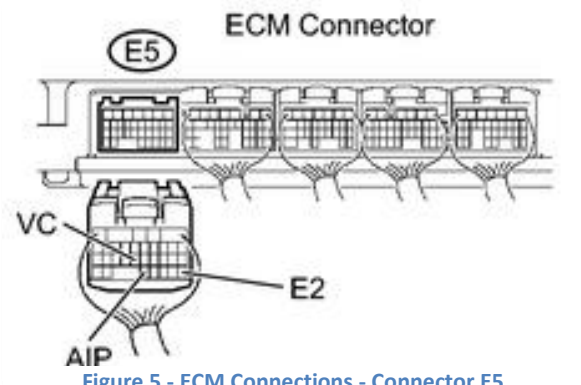

Figure 5 - ECM Connections - Connector E5
- 5) Disconnect Connector E5 as identified in Figure 5.